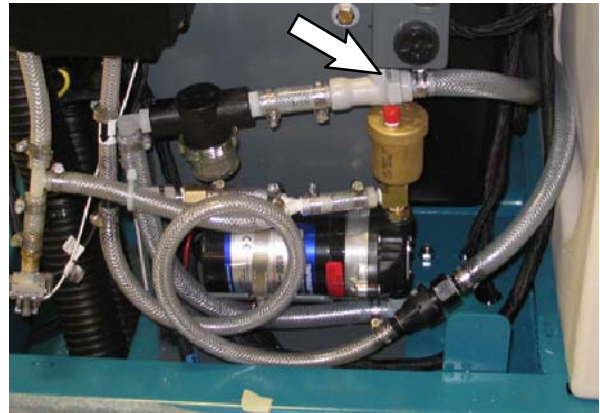

FIG. 16
28. Connect solution supply hose to the *ec-H2O* assembly inlet hose. Refer to Fig. 16.